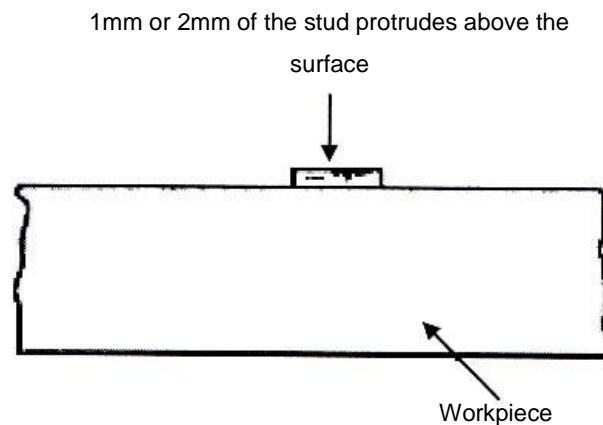

FIG 11.
- Cut the screwed rod off to protrude 1mm to 2mm above the face of the workpiece with a hacksaw and without damaging the face. (Fig 11)